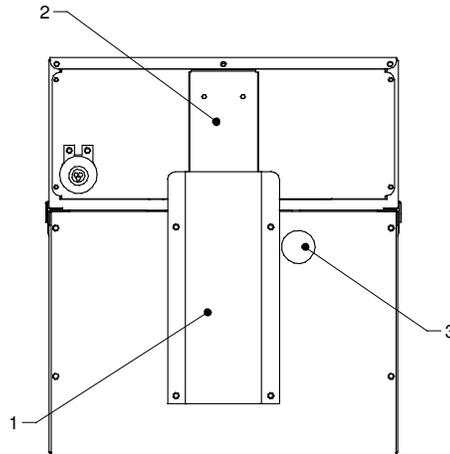

Fig 2
- Disconnect the unit from the power supply. Remove the base plate, lift the control head out of the rear channel (Fig 2) and clean the tank with a little hot water and mild detergent.
- The re-set button is located below the control head (See Fig 2) inside the access hole. Push button upwards to re-set.